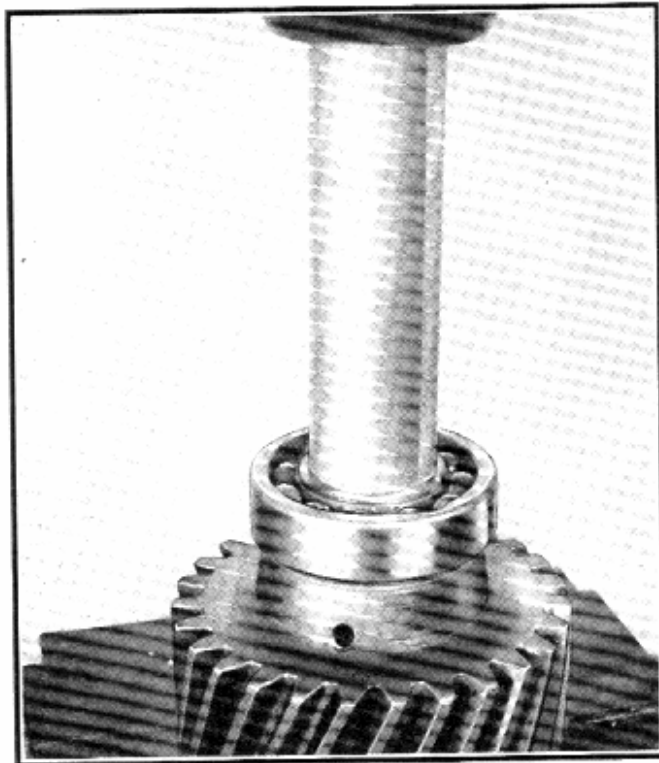

Fig. 30—Installing Main Shaft Rear Bearing, Tool No. J-1718
2. If it is found necessary to install a new bushing (77) in the main drive gear (78), it should be pressed into place using an arbor press. The oil holes in the bushing should line up with the holes in the gear hub.
3. Install the splined thrust washer (79) next to the snap ring (80) and the main drive gear (78) with bushing (77), over the shaft with the internal teeth of the gear facing the front end of the shaft, place the rear thrust washer (84) over the shaft so that the chamfered side of the washer faces away from the gear.
4. Install the rear bearing (83) on the shaft with the shielded side facing the gear. Replacing tool J-1718 shown in Fig. 30 should be used when installing the bearing to prevent damage to the cone and also to ensure a proper seat against the shoulder on the shaft. Lubricate the bearings with engine oil.
5. Place the sliding gear (85) on the front end of the mainshaft with the shifter fork groove to the front of the shaft.
7. Install the power take-off clutch (82) onto the rear end of the mainshaft. Line up the taper